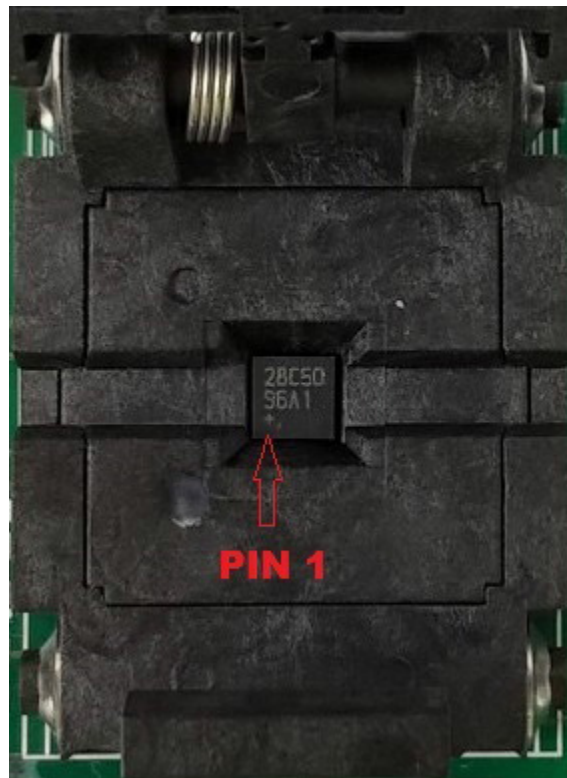

Figure 7. DS28C50 and DS2477 Orientation in Burn-In Socket
- a) (Optional—Perform only if using the coprocessor): Open the 1st socket and insert a DS2477 into one of the cavities, as shown in Figure 7.
- b) Open the 2nd socket and insert a DS28C50 into the cavity, per the same orientation shown in Figure 7, with the plus (+) oriented in the bottom left corner of the socket.